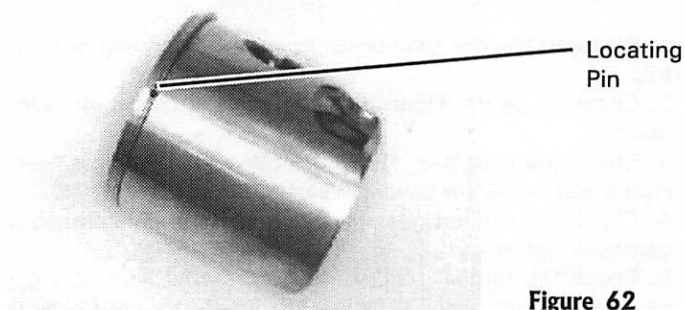

Figure 62
6. Check the condition of the piston ring locating pin (Figure 62). Check the pin for tightness. Check the piston for cracks leading around the pin.